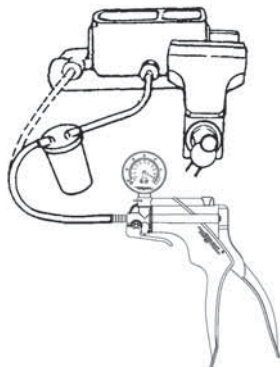

FIGURE 17: BENCH BLEEDING
- 3) Remove a plug from the master cylinder and attach the proper adapter to this master cylinder outlet port. Connect the pump tube to the reservoir jar and the jar tube to the adapter (FIGURE 17).